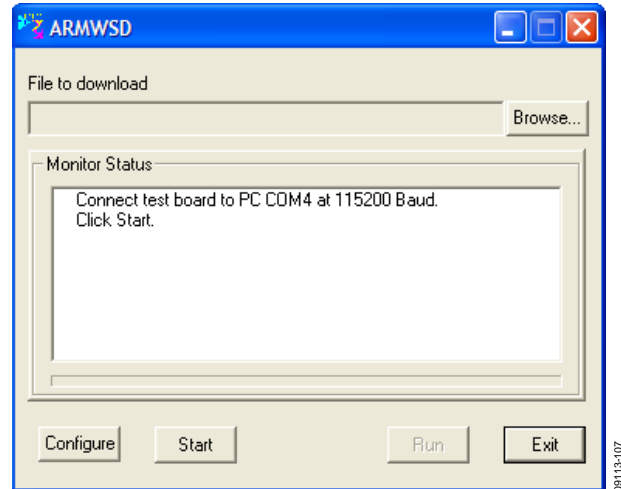
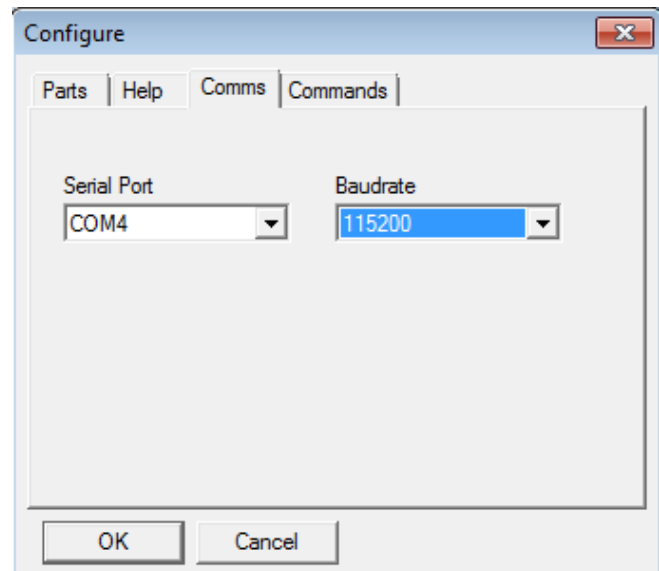

Figure 7. ISEB ARMWSD Firmware Downloader
Figure 8. Selecting the Correct COM Port for the Downloader
2. Run the **ARMWSD.exe** program (it can be downloaded from the ftp://ftp.analog.com/pub/iMEMS_Sensor_Eval/ in the folder of EVAL-ADXL375-MLP); it displays information about the downloader, as shown in Figure 7.
4. Click **Configure** to display the box shown in Figure 8.
The downloader file should be configured for the **ADuC7026** microcontroller on the ISEB. This can be selected in the **Parts** tab. The other option you may need to change is the COM port. You can select the correct port from the **Serial Port** menu on the **Comms** tab (see Figure 8). If you cannot download the .hex file correctly, please try to make the **Baudrate** lower and retry. “Program” and “Verify” and suggested to check at the same time in **Commands** tab.
When the COM port is selected, click **OK** to accept the changes and go back to the ARMWSD box (shown in Figure 7).
1. Click **Start** in the ARMWSD box (see Figure 7) to initiate the flashing process. After clicking **Start**, click the two buttons (shown in Figure 9) on the ISEB in the following order to flash the firmware:
2. If the downloading process fails, which is indicated in the **Monitor Status** box (see Figure 7), attempt the download again by clicking **Start** and then pressing the appropriate switch combination. It may take a few attempts to reprogram the board successfully. You can also try to lower the download Baudrate as shown in Figure 8 to increase the success rate.
3. After the download has completed successfully, click **Run** (as shown in Figure 7) to reset the ISEB and to begin running the new firmware. When this step is complete, the board is updated correctly.